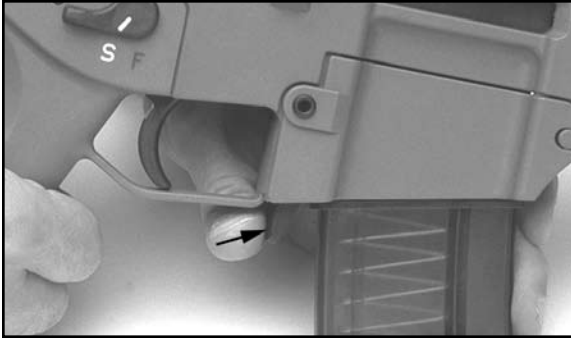

Figure 22 Release magazine (push forward)
2. Push the magazine catch forward with the thumb and remove the empty magazine (see Figure 22 below).